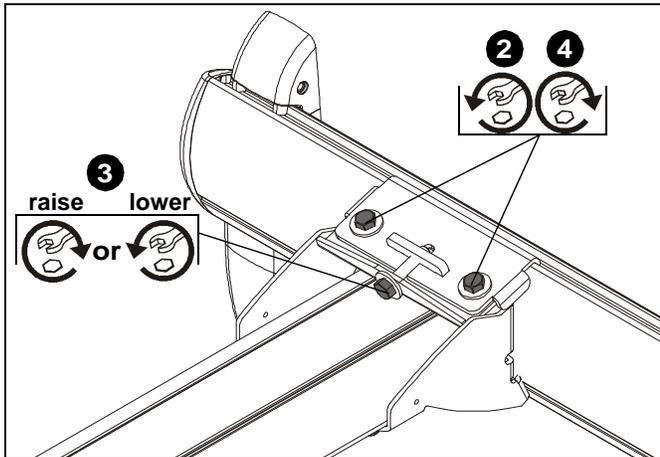

Figure 36
2. Loosen two bolts on either side of pitch adjustment screw. (See Figure 36)
3. Adjust pitch adjustment screw until mount is at desired pitch level. Turn clockwise to raise mounting level or turn counterclockwise to lower mounting level. (See Figure 36)
4. Tighten two bolts on either side of pitch adjustment screw. (See Figure 36)